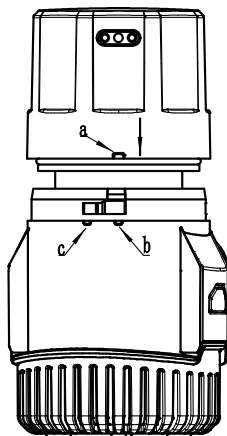

Figure 4
1. Align the convex point a on the motor cover (that is, the motor module) with the convex point b on the motor housing and press into it, as shown in Figure 4.